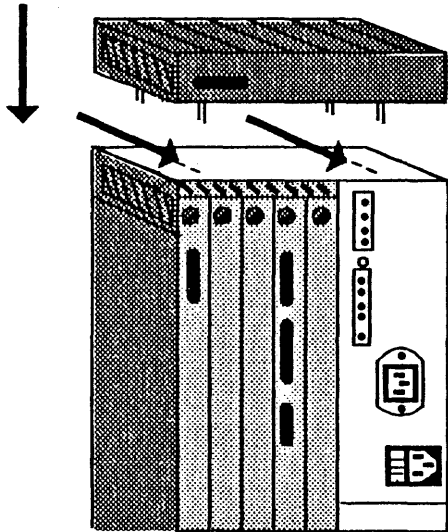

Figure 14. Placing the Floppy Disk Drive on the Processor Unit
2. Carefully place the Floppy Disk Drive on top of the Processor Unit by aligning the four clips in the Floppy Disk Drive into four corresponding slots of the Processor Unit. (Refer to Figure 14.)